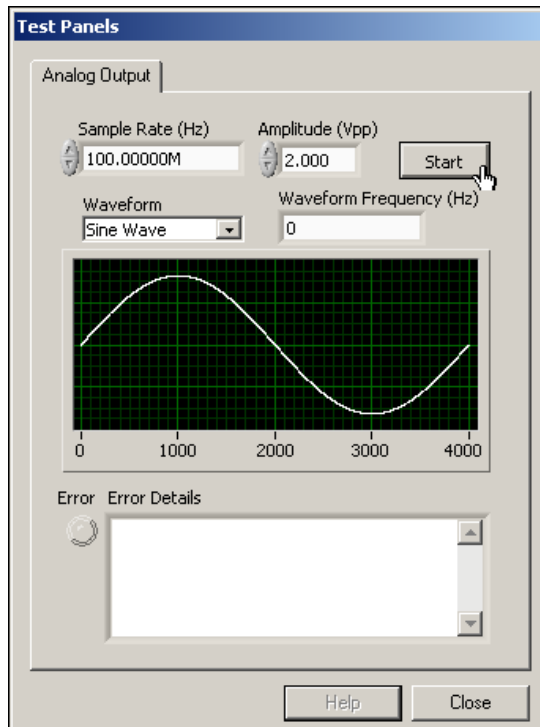

Figure B-7. The NI PXI-5421 AWG Module Test Panel
20. The NI 5421 test panel (Figure B-7) verifies intermediate frequency (IF) signal generation capabilities. Specify a center frequency in the **Waveform Frequency (Hz)** control.